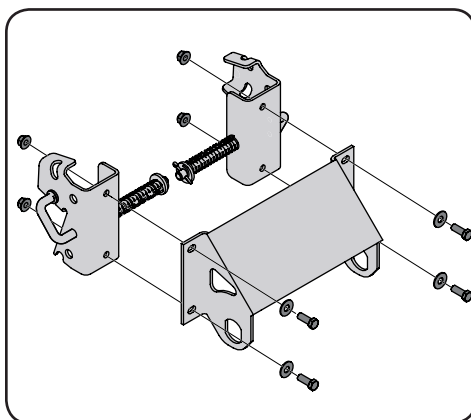

Figure 2-2
1. Attach RH and LH mounting assemblies (689-00682) (689-00681) to large mounting bracket (789-00463) with 4 screws (710-0514) 4 washers (736-04183) and 4 nuts (712-04065) found in hardware pack 2 (689-00678). See Figure 2-2.